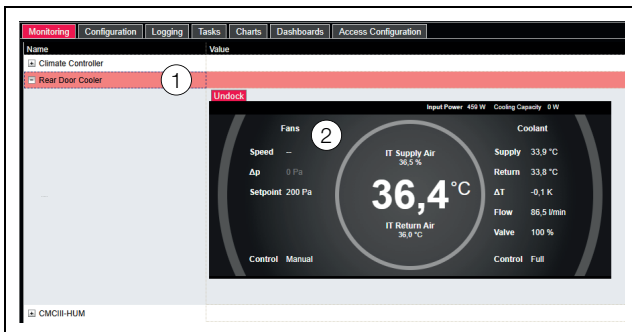

Fig. 107: Graphical representation
The display switches to the graphical representation (fig. 107) and all statuses and speeds of the fans and temperature values for the server inlet and outlet temperature as well as the control modes for the fan and coolant control can be seen at a glance and amended by clicking the graphic (fig. 107, item 2)
After selecting the "Rear Door Cooler", if graphical representation (fig. 107) is preselected, you can switch to the tree view as follows:
- Click on the greyed "Graphics" symbol after the "Rear Door Cooler" entry (fig. 107, item 1).